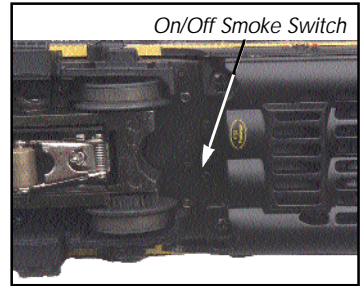

Figure 6 - Smoke Unit On/Off Switch
2. If you choose not to prime the unit with fluid, turn the smoke unit switch located under the engine to the OFF position. (See Fig. 6 on page 11) Running the engine without a primed smoke unit may cause damage. See the "ProtoSmoke Unit Operation" section of this book for more information on smoke unit maintenance.
■ If you choose not to add the fluid (or have already added the fluid but choose to run smoke free), turn off the smoke unit switch located under the engine body. (see figure 6) Failure to either add fluid to the unit or to turn it off may damage the smoke unit heating element and/or wicking material.